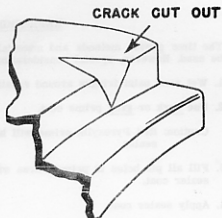

FIG. 7
- a. If depth of prepared area does not penetrate through the body panel (Figure 7), build up to within 1/16" of the final surface contour with fiberglass strips or pieces saturated with the clear plastic mixture. Then follow operations 9, 10, 11, 12, and 13 under the heading "REPAIR OF CRACKED AREA".